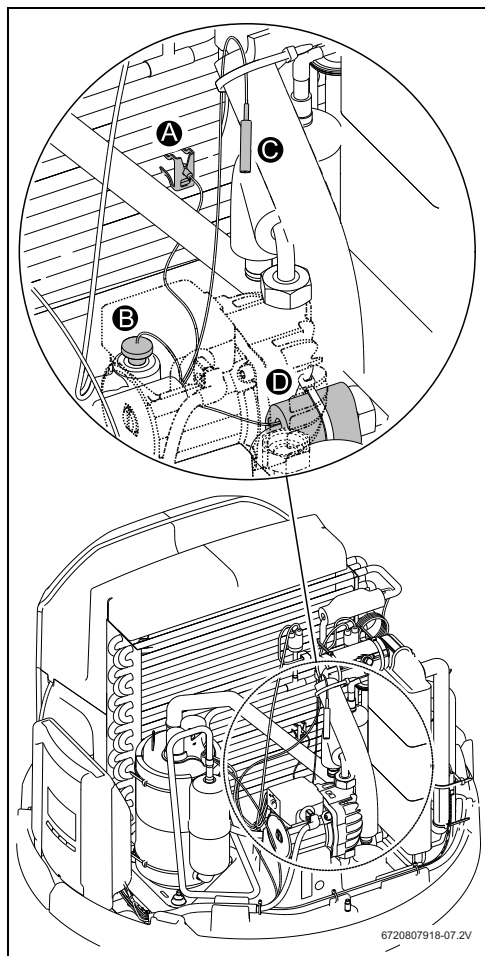

Fig. 19 Sensor positioning
- Are the sensors at their correct place (Fig. 19, [A - fins temperature], [B - top tank temperature], [C - air temperature] and [D - bottom tank temperature])?
- Locate the sensors according to Fig. 19.